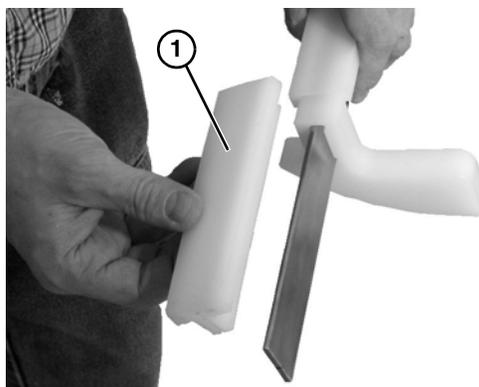

Figure 50
3. Remove and replace wear strips if worn (**Figure 50, item 1**).